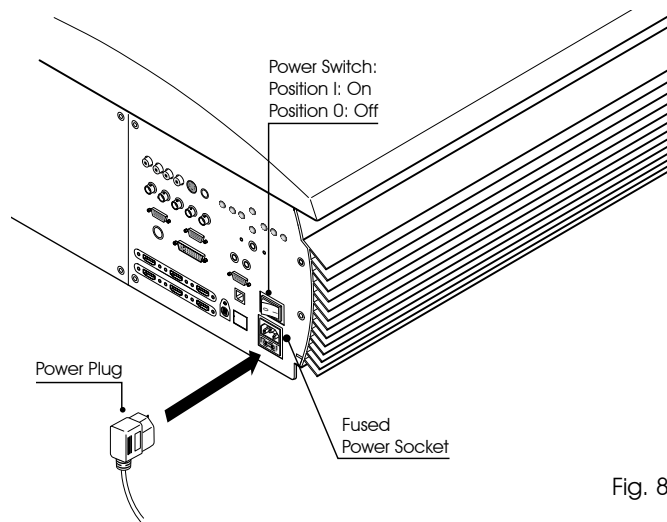

Fig. 8
**WARNING:** Connect the projector to a power supply with a nominal voltage within the following values: 100-240 V AC, 50/60 Hz. It must be earthed (Fig. 8).